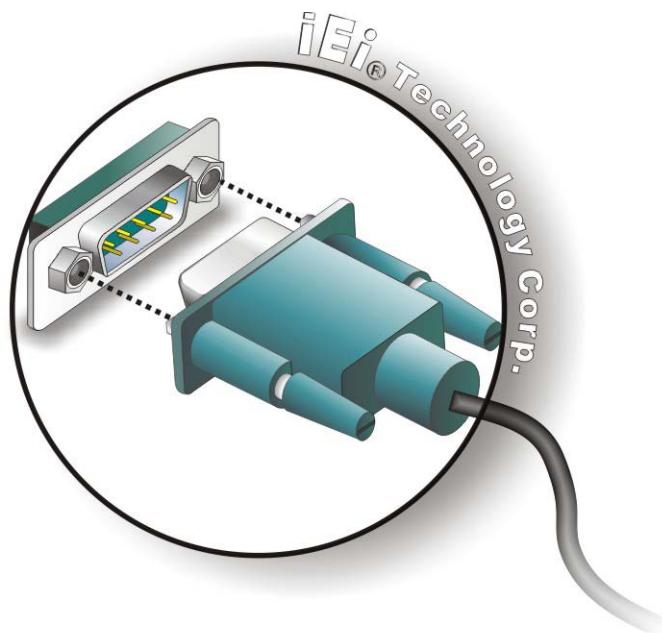

Figure 4-13: Serial Device Connector
- Step 2:** **Insert the serial connector.** Insert the DB-9 connector of a serial device into the DB-9 connector on the external peripheral interface. See **Figure 4-13**.